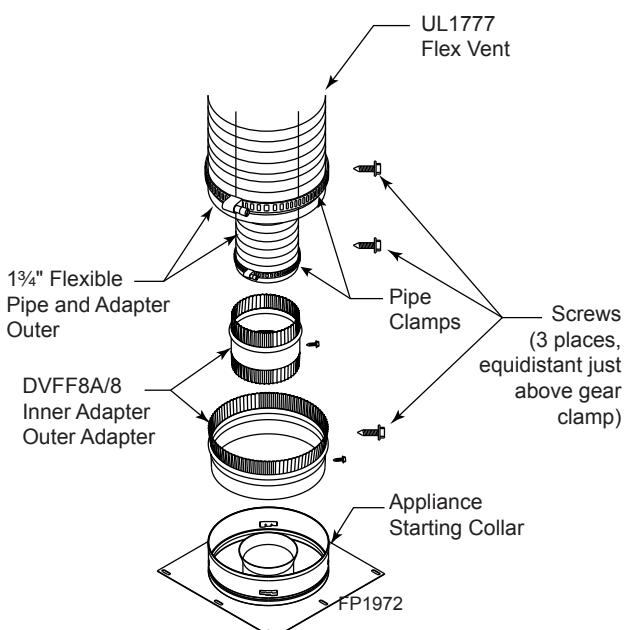

Figure 36 - Typical Appliance Connection
2. The flex adapter starter kit (DVFF8A/8) is used to attach flex venting to the appliance starting collar. It includes 5" inner and 8" outer adapter rings. *Figure 36*
- A. Installing the inner flex adapter and pipe. *Figure 36*
B. Installing the outer flex pipe. *Figure 36*